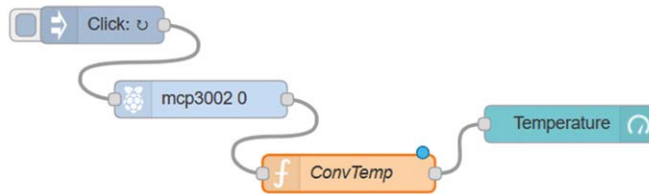
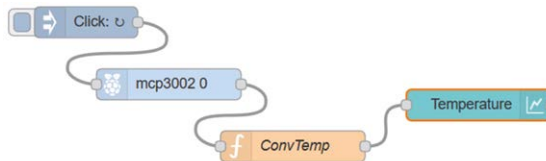
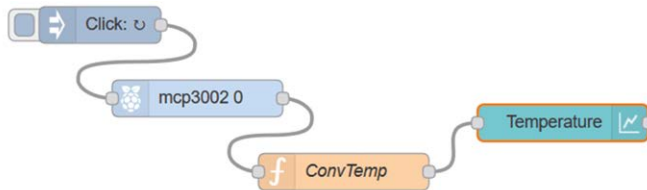

Figure 8.3 Flow program of the project
Figure 8.7 Flow program of the example
Figure 8.10 Flow program of the example
Node-RED flow program: Figure 8.3 shows the flow program which consists of 4 nodes: an **inject** node, an **A/D converter** node, a **function** node, and a **gauge** node.
- Create a **gauge** node and connect all the nodes together as shown in Figure 8.3. Configure the node as follows:
The flow program is the same as in Figure 8.3, but the **gauge** node is replaced with a **chart** node and a **Line chart** is chosen as shown in Figure 8.7.
The flow program is the same as in Figure 8.3, but the **gauge** node is replaced with a **chart** node and a Bar chart is chosen as shown in Figure 8.10.